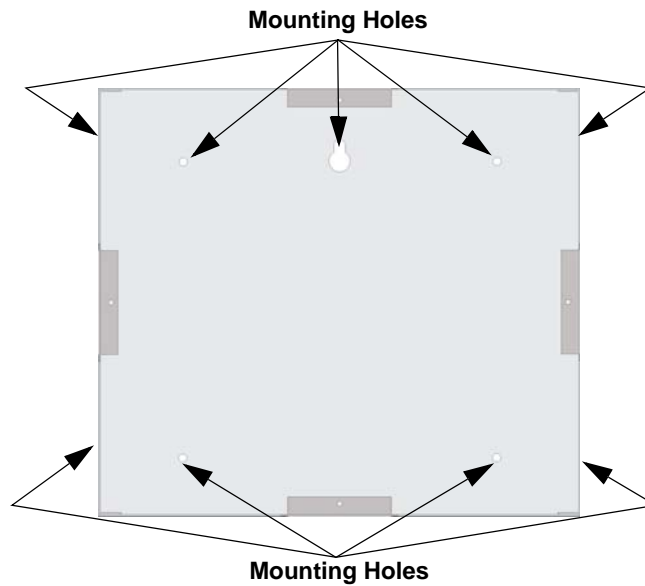

Figure 4-16 Back Box Mounting Holes
1. The back box dimensions are 9-9/32" w x 8-3/8" h. The minimum depth 2". The back box can be mounted prior to the complete installation of the 6855 using any of the mounting holes shown in Figure 4-16.